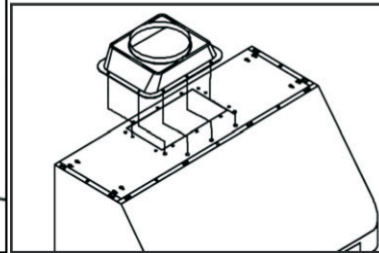

Figure 3
- When using either option, attach the ducting transition piece to the top of the range hood using the included 10 Round Head Screws as shown in Figure 3.